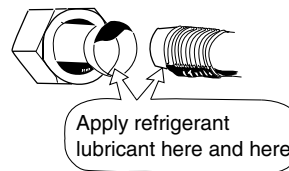

Fig. 4-4
- (1) Apply a sealing cap or water-proof tape to prevent dust or water from entering the tubes before they are used.
- (2) Be sure to apply refrigerant lubricant to the matching surfaces of the flare and union before connecting them together. This is effective for reducing gas leaks. (Fig. 4-4)